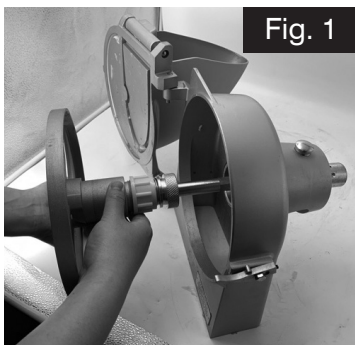
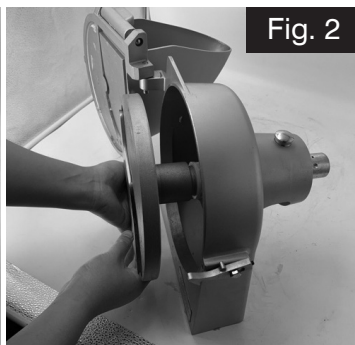

Fig. 1
Fig. 2
1. Lift the knife assembly (Fig. 1) and insert it into the rear housing. (Fig. 2)